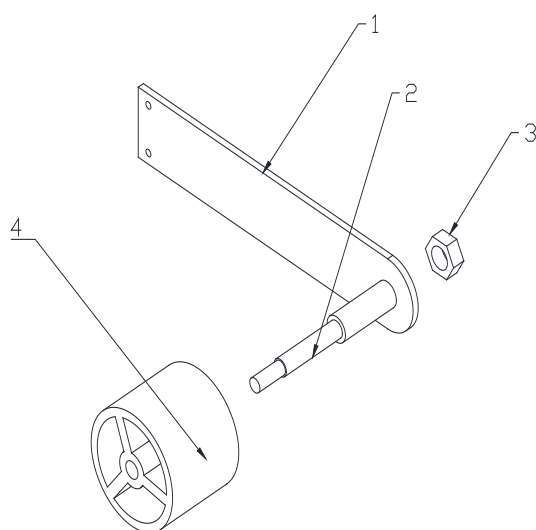

Figure 18
6.5.4 The tape holder (See Figure 18):